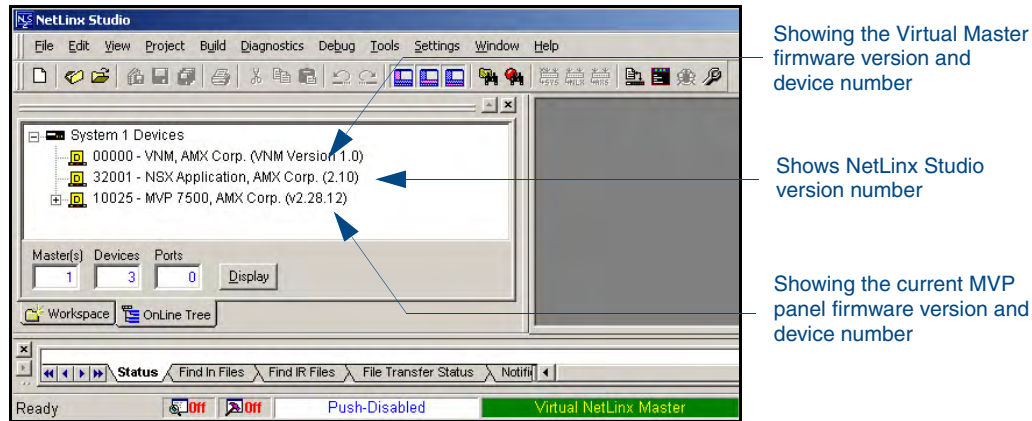

FIG. 37 NetLinX Workspace window (showing panel connection via a Virtual NetLinX Master)
3. After the Communication Verification dialog window verifies active communication between the Virtual Master and the panel, click the **OnLine Tree** tab in the Workspace window (FIG. 37) to view the devices on the Virtual System. *The default System value is one.*
4. Right-click on the System entry (FIG. 37) and select **Refresh System** to re-populate the list. Verify the panel appears in the **OnLine Tree** tab of the Workspace window.